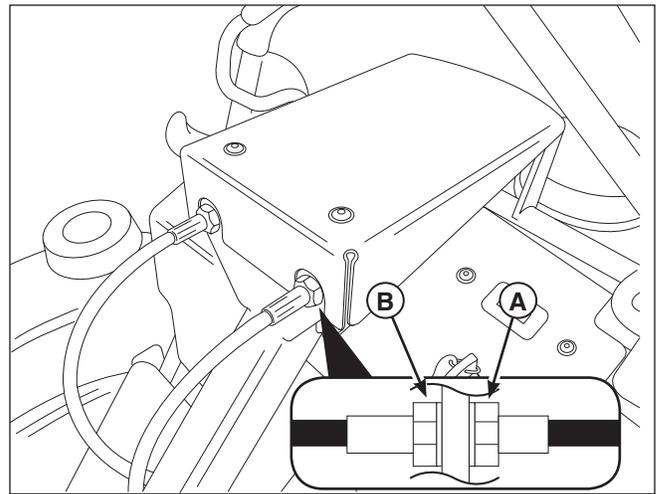

Figure 29. Speed Balancing Coarse Adjustment
1. Loosen the inner jam nut (**A, Figure 29**).